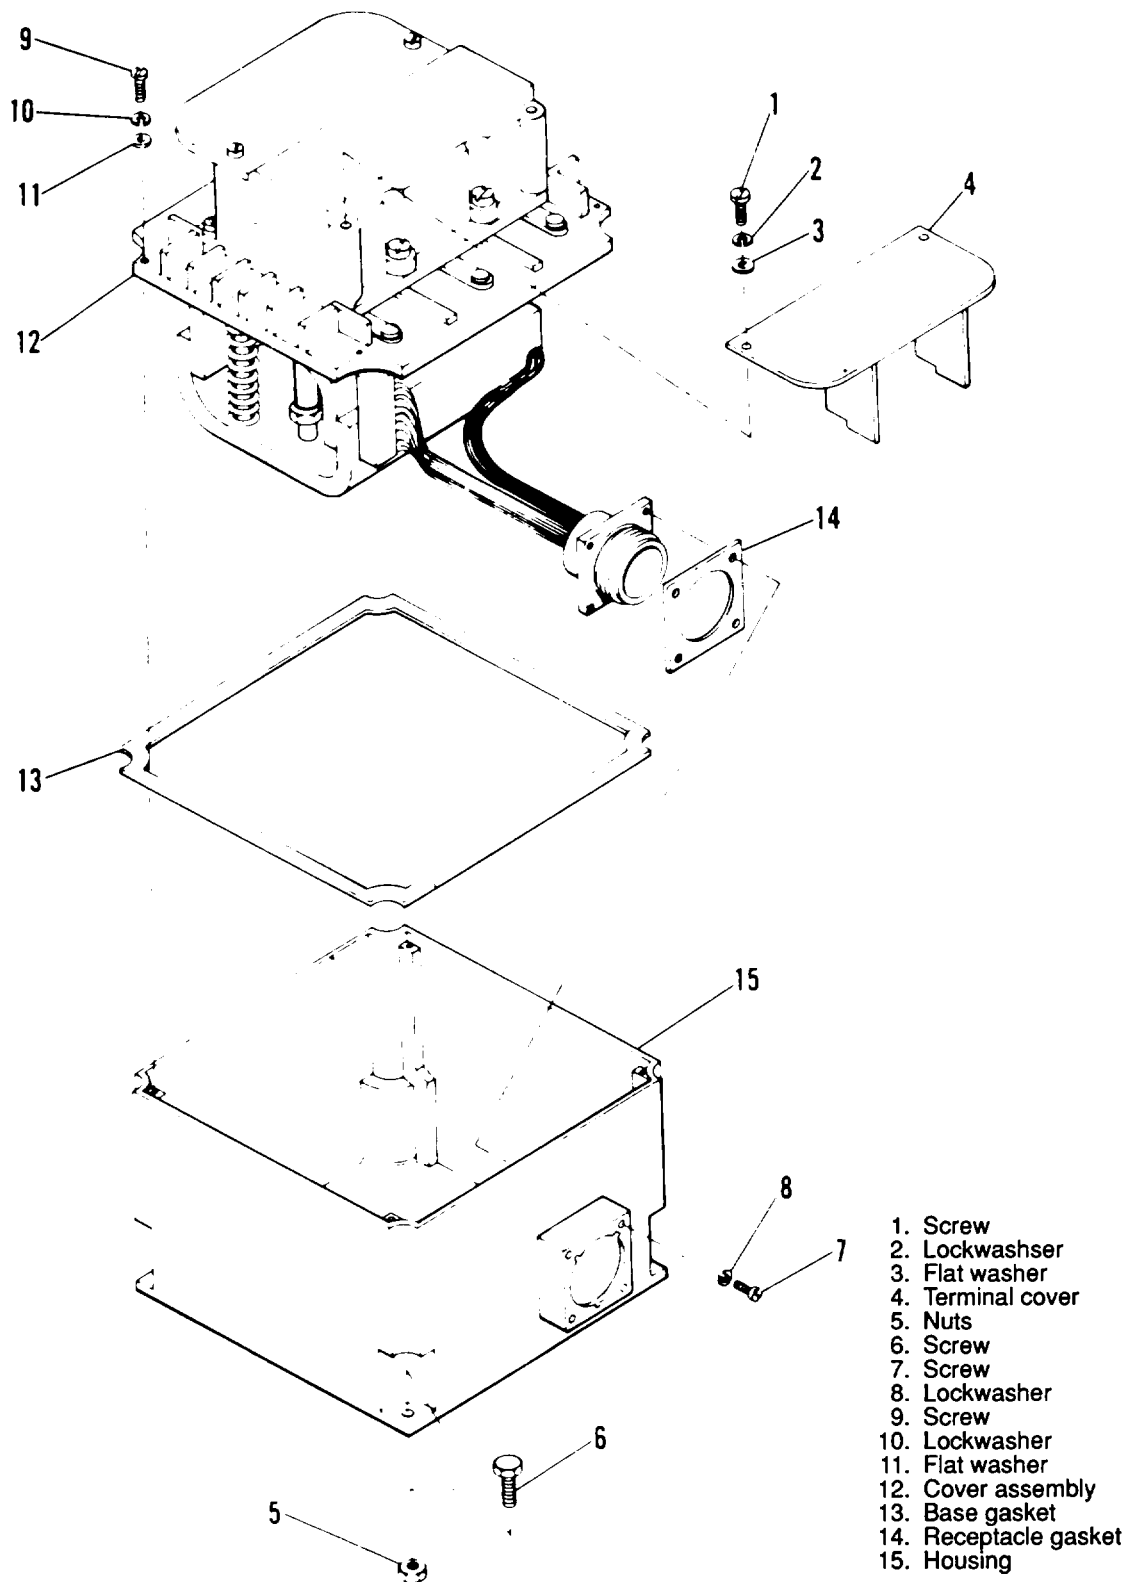

Figure 3-100. Main Load Contactor (Type A), Exploded View (Sheet 1 of 3)
- (a) Install a suitable clamp across points (A) and (B) of actuator assembly. Tighten clamp sufficiently to insure that no air gap exists at points (C) and (D).
- (b) Tighten loosely installed screws (1).
- (e) Adjust guide rods (2) until the gauge is snug throughout the perimeter.
- (f) Secure the adjustment by tightening loosely installed nuts (3).
- (12) Install contact assemblies (54 and 53, figure 3-100) and cable clamp (52) and secure with flat washer (51), lockwasher (50), screw (49), lockwashers (48), and screws (47).
- (13) Secure contact assemblies (38) to main base (46) with flat washers (37), lockwashers (36), and nuts (35). Install terminal washers (41), lockwashers (40) and nuts (39).
- (14) Install grommets (33), spacers (34), and arc chutes (32).
- (15) Install shims (30 and 29), springs (28), bushings (27), and shims (26) onto bridge assemblies (25). Secure bridge assemblies to main contact operator (31) with retaining rings (24).